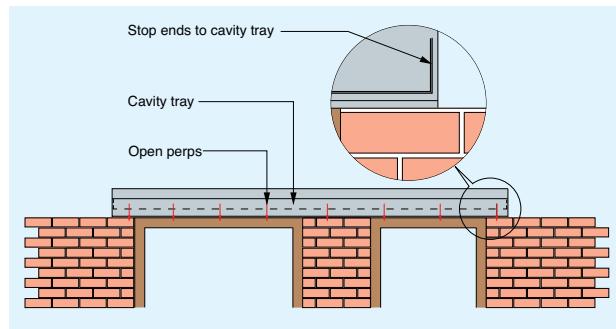

Figure 1 Cavity trays
6. Cavity trays should be continuous across closely spaced openings (Figure 1) and stop ends provided.